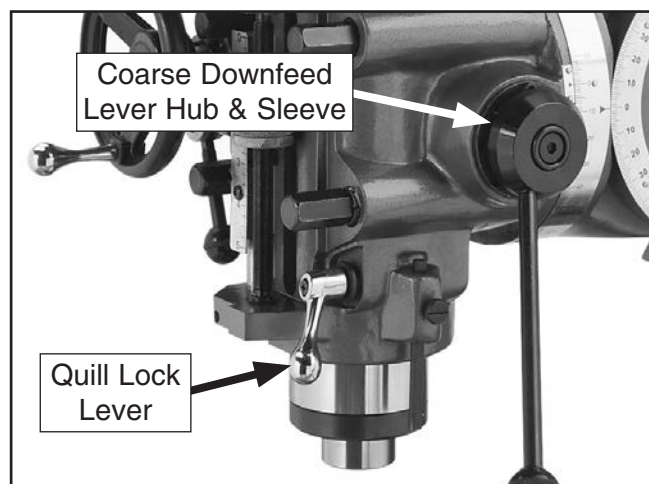

Figure 36. Coarse downfeed lever hub, downfeed sleeve, and quill lock.
3. Make sure the pin of the coarse downfeed lever hub is engaged with one of the detents on the downfeed sleeve (see **Figure 36**).